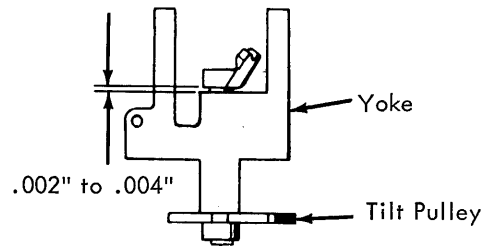

FIGURE 93. Tilt Tube End Play Adjustment
1. Tilt Tube End Play - (machines prior to gearless tilt). The tilt pulley should be adjusted up or down on the tilt tube so that .002" to .004" end play exist in the tilt tube (Fig. 93).